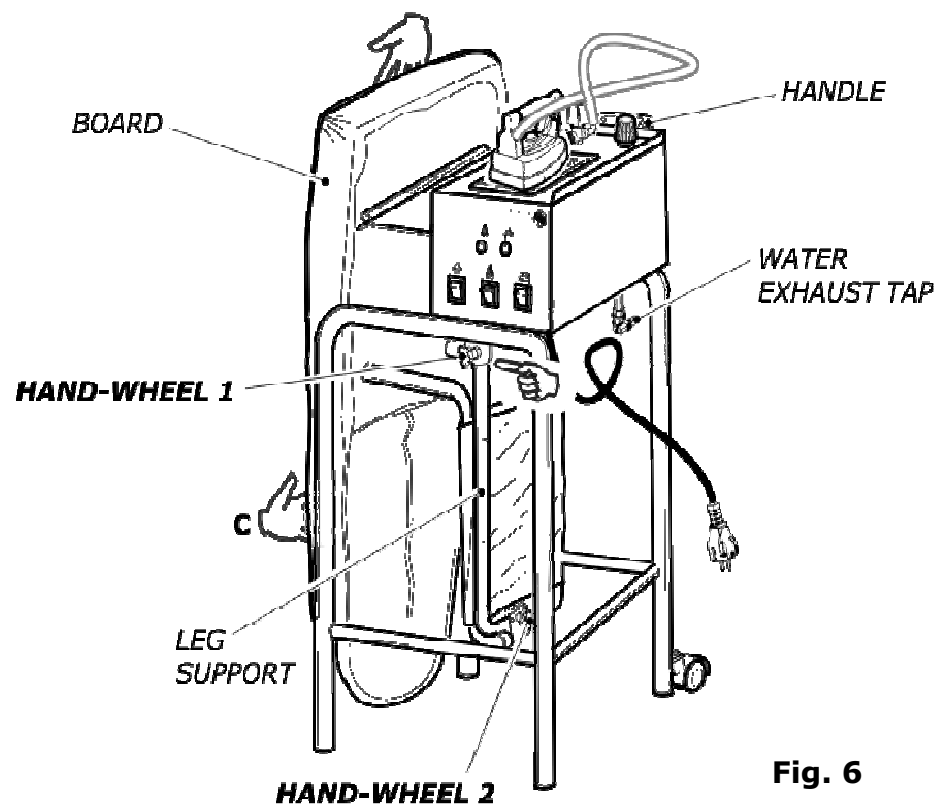

Fig. 6
1. unscrew hand-wheel "2" till the leg support is free to rotate (fig. 1, fig. 6);
2. rotate the leg support and, at the same time, take the board by point **A** till it closes (fig. 1 and fig. 6);
3. fix the leg support to its special hook. Keep point **C** pressed and screw hand-wheel "1" with the other hand (fig. 6).
In order to displace the table, take it by the handle (fig. 6) and move it in such a way that the wheels can touch the floor.